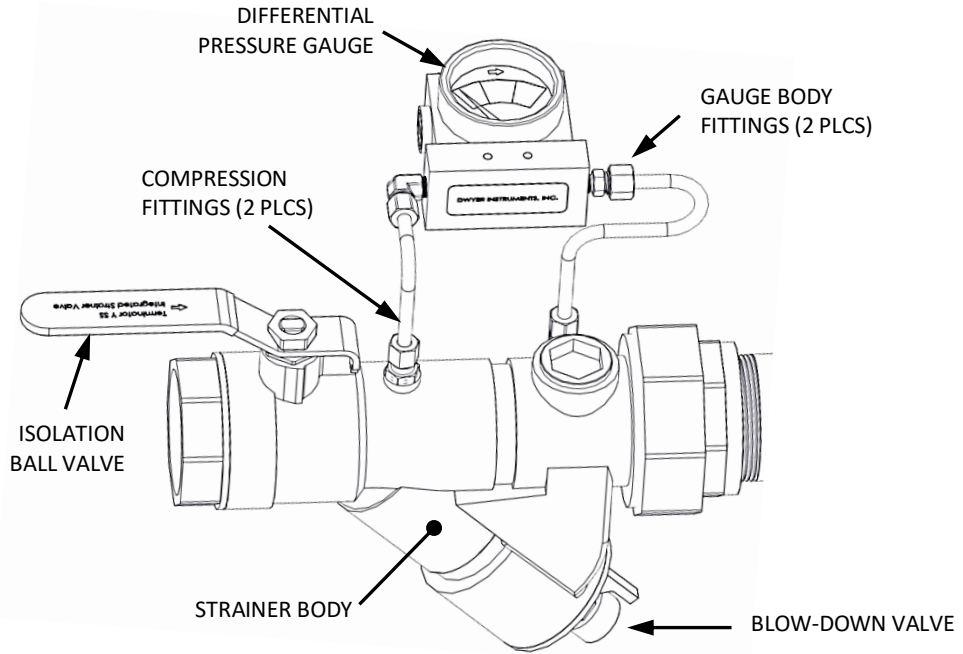

Figure 8-26. Differential Pressure Gauge/Strainer/Ball Valve Combo – Boiler Side
3. Refer to Figure 8-26 and loosen the two compression fitting nuts on the Differential Pressure Gauge tubes which are inserted into the brass Strainer body.